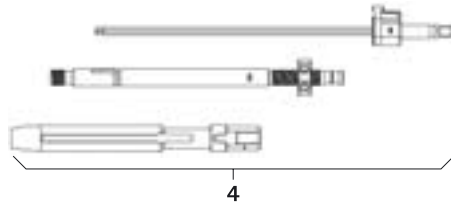

Fig. 8
- Mount reduction lever 4, see Fig. 8.